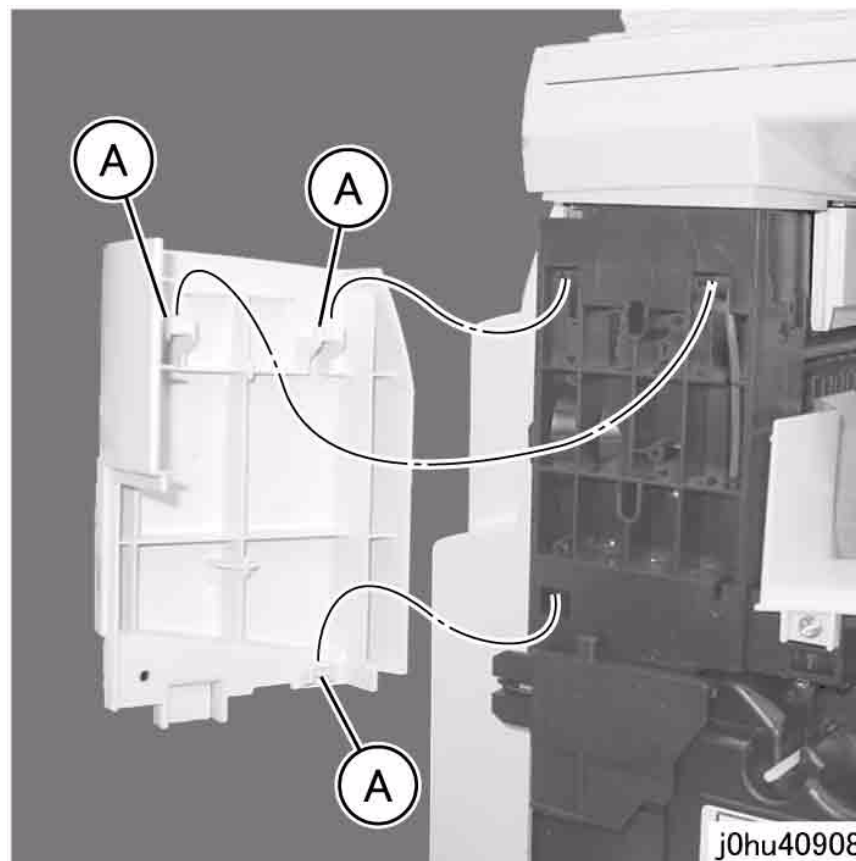

Figure 2 Install Front Left Cover
2. When installing the Front Left Cover, attach the hooks (Figure 2).
- (A) Hooks (3)